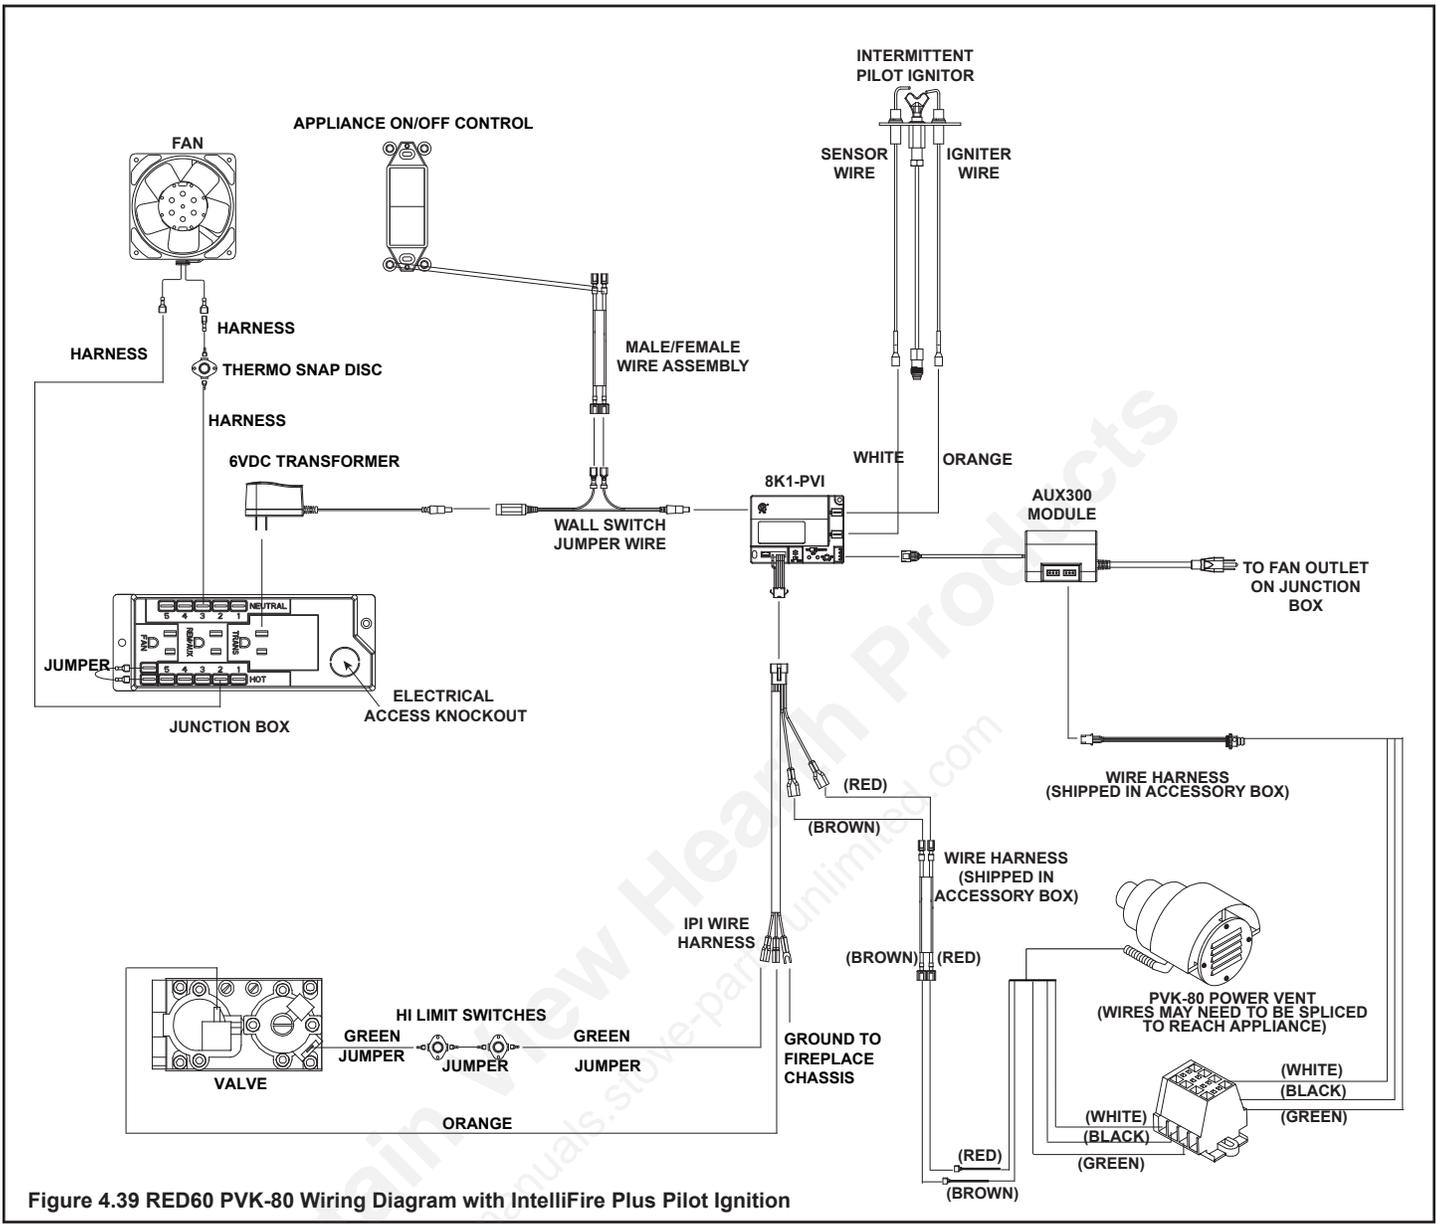

Figure 4.39 RED60 PVK-80 Wiring Diagram with IntelliFire Plus Pilot Ignition
1. Refer to RED60-PVK-80 wiring diagram. See Figure 4.39.
7. Place the PVK-80 terminal block assembly in the cavity under the fireplace behind the blower using provided velcro pads. See Figure 4.37. Connect the black, white, and green wires from the power vent assembly to the terminal block according to the wiring diagram. See Figure 4.38 and Figure 4.39. Attach 1/4 inch male wiring connectors to red and brown wires from PVK-80 Power Vent.